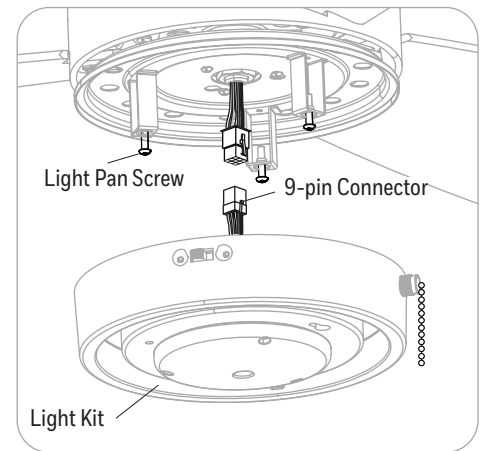

Figure 5.6
6. Remove one of the light pan screws and loosen the other two. Then, connect the 9-pin connector from the fan to the 9-pin connector from the light kit. (Figure 5.6).